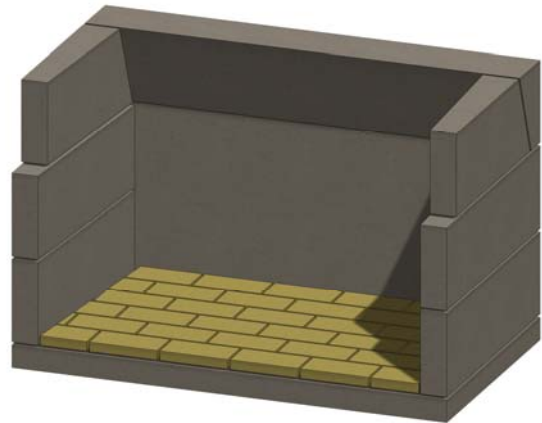

Figure 15. Floor Firebrick
H. Line the firebox, using split firebrick and 1/4-inch mortar joints. Install firebrick on the floor first, with 1/4-inch of Stone Age Multi-Purpose Ready-Mix or other high temperature mortar. See Figure 15.